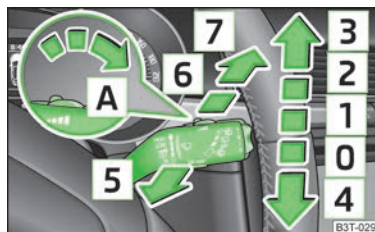

Fig. 47
- If the slower [2] » Fig. 47 on page 60 or the faster [3] wiper setting is switched on and the vehicle speed decreases to below 4 km/h, the lower wiper step is switched on automatically. At a speed increase of more than 8 km/h the previous wiper setting is established again.
► If you only wish to wipe the windscreen **briefly**, push the lever into the spring-tensioned position [4] » Fig. 47. If the lever is held in the lower position for more than 1 second, the wiper wipes faster.
► Position the lever upwards into position [1] » Fig. 47.
- › Position the lever upwards into position **2** » Fig. 47.
- › Position the lever upwards into position **3** » Fig. 47.
- › Pull the lever towards the steering wheel into the spring-tensioned position **5** » Fig. 47, the washer system is activated immediately, while the windscreen wipers start wiping a little later. The wash system and the windscreen wiper operate simultaneously at a speed of more than 120 km/h.
- › Place the lever in position **1** » Fig. 47.
- › Push the lever away from the steering wheel into position **6** » Fig. 47 and the windscreen wiper will operate every 6 seconds.
- › Press the lever completely away from the steering wheel into the spring-tensioned position **7** » Fig. 47, the washer system is activated immediately, while the windscreen wiper starts wiping a little later. The wiper and washer system will operate as long as the lever is held in this position.
- › Move the lever back into the home position **0** » Fig. 47.
If the windscreen wiper is in position **2** » Fig. 47 on page 60 or **3** the rear window is wiped every 30 or 10 seconds if the vehicle's speed exceeds 5 km/h.
- › Push the operating level into the position **6** » Fig. 47 on page 60 five times in succession within 5 seconds.
The headlights are being cleaned after the windscreen has been sprayed for the first time and fifth time, the low beam or main beam are switched on and the windscreen wiper lever was held in the position  » Fig. 47 on page 60 for about 1 second.
- Then press the windscreen wiper lever into position  » Fig. 47 on page 60 within 10 seconds - the wiper arms move into the service position.
- Turn on the ignition and press the windscreen wiper lever into position  » Fig. 47 on page 60, the windscreen wiper arms move to the home position. ■